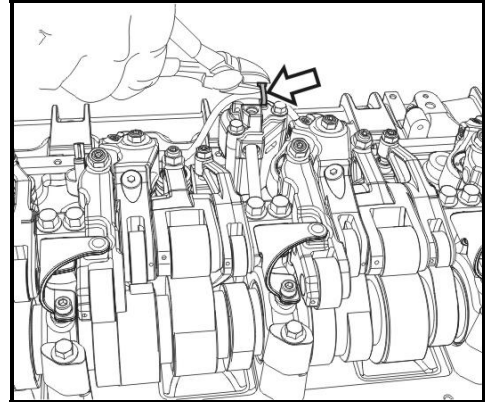

FIGURE 13
19. If equipped, cut the nylon cable tie securing the wiring harness to the engine compression brake actuator (fig. 13).